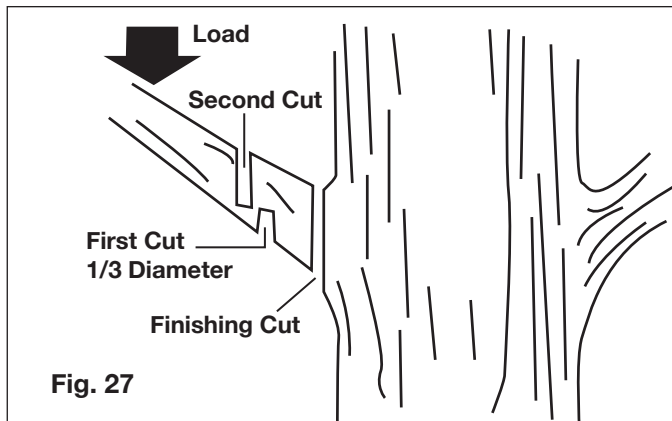

Fig. 27
- Under cut the branch 1/3 through for your first cut. Your second cut should over cut to drop the branch off (Fig. 27). Be prepared to balance the weight of the pole chain saw when the limb falls.